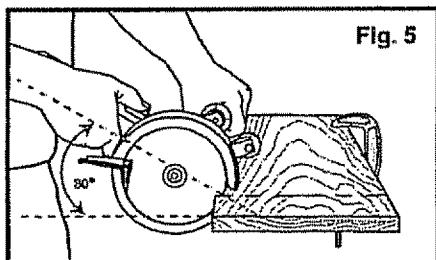

Fig. 5
**ALWAYS** be sure that you position the blades perpendicular to the plane of the workpiece. Make the cut at an approximate 30° angle to the workpiece surface. (See Fig. 5).